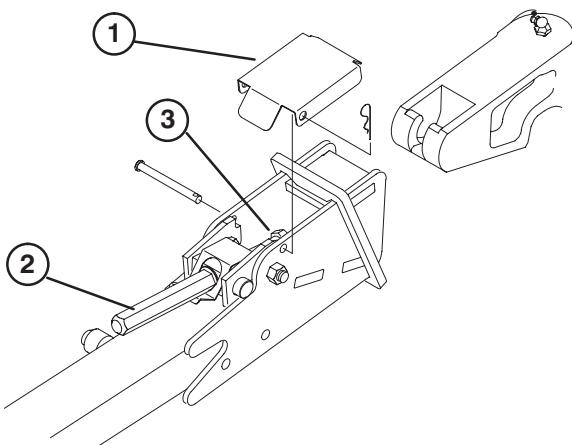

Figure 2
2. Secure the lift arm assemblies to the traction unit as follows (Fig. 2):